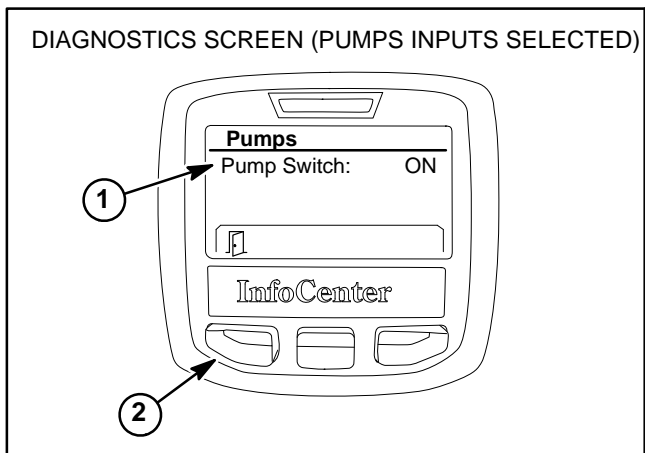

Figure 25
5. Manually operate each input item listed (Fig. 25). The input condition on the InfoCenter display should alternate ON and OFF as the input is switched open and closed. If ON and OFF do not alternate during input operation, the input component or its circuit wiring is faulty and should be tested (see Component Testing in this chapter).